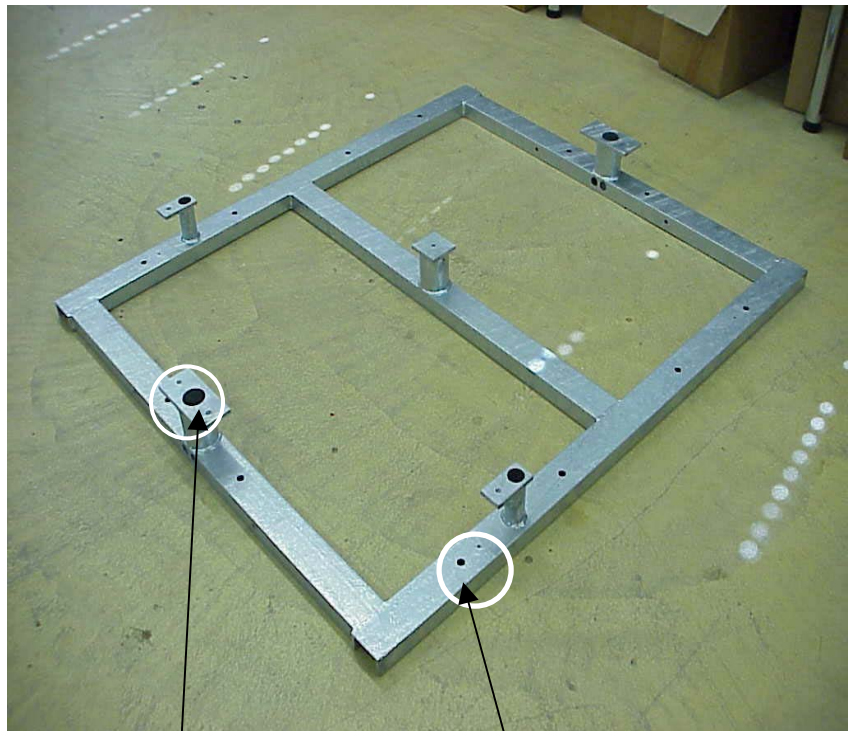

Fig.4
1. Mark the dimensions onto foundation acc. to fig. 4